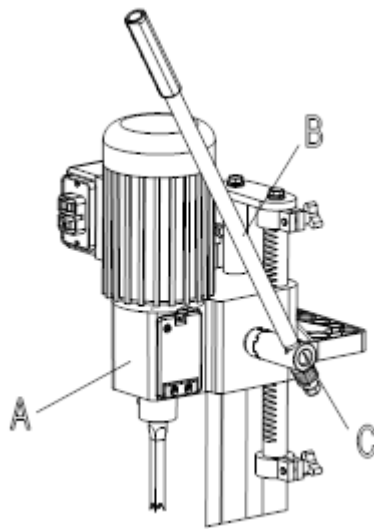

Fig. 9
The head (A) Fig. 9, is raised and lowered by means of the lever (B). For maximum leverage during the mortising operation, the lever (B) can be repositioned by pulling out the hub (C) of the lever assembly and repositioning hub on the pinion shaft.